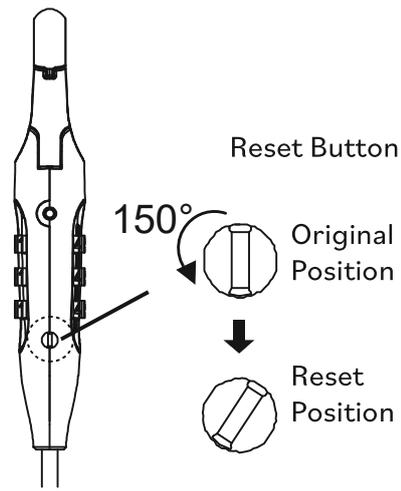

Fig. 10
b. Turn the Reset Button counterclockwise 150° to the Reset Position. (Fig. 10)